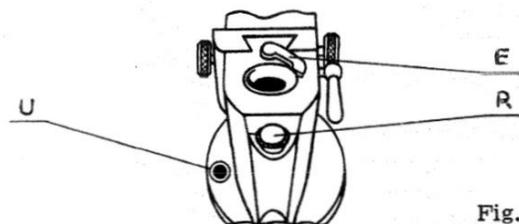

Fig. 5
2. Bring red dot into window U, have index pin R engage the central hole (see Fig.5).